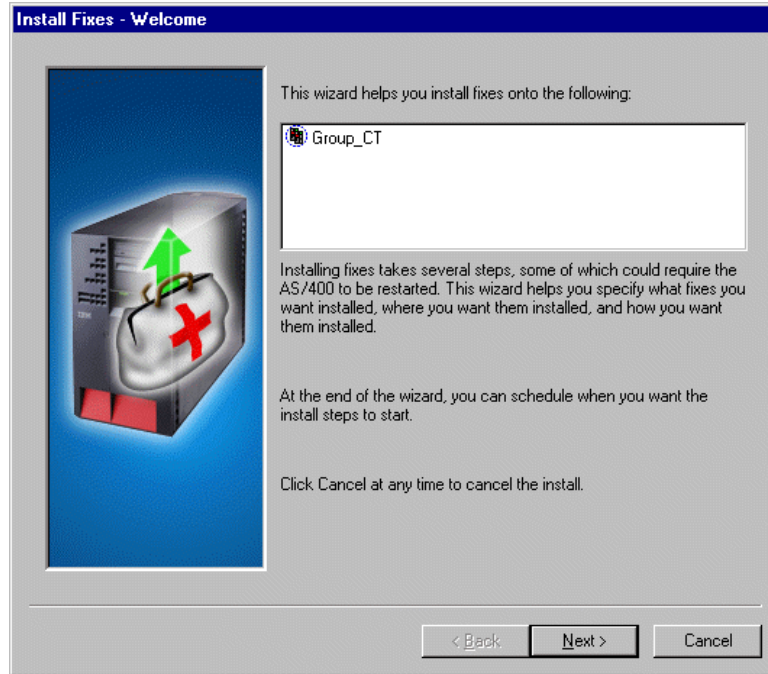

Figure 80. Install Fixes: Welcome window for system group
3. Select **Fixes->Install....** The Install Fixes – Welcome window appears, as shown in Figure 80 on page 105.